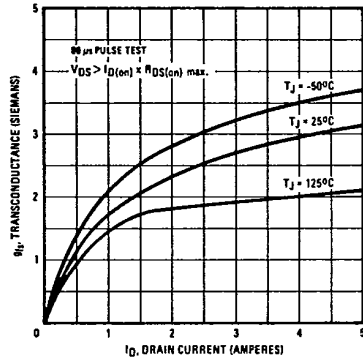

Fig. 6 - Typical Transconductance Vs. Drain Current
① $T_J = 25^\circ\text{C}$ to 150°C . ② Pulse Test: Pulse width $< 300\mu s$, Duty Cycle $< 2\%$. ③ Repetitive Rating: Pulse width limited by max. junction temperature. See Transient Thermal Impedance Curve (Fig. 6).